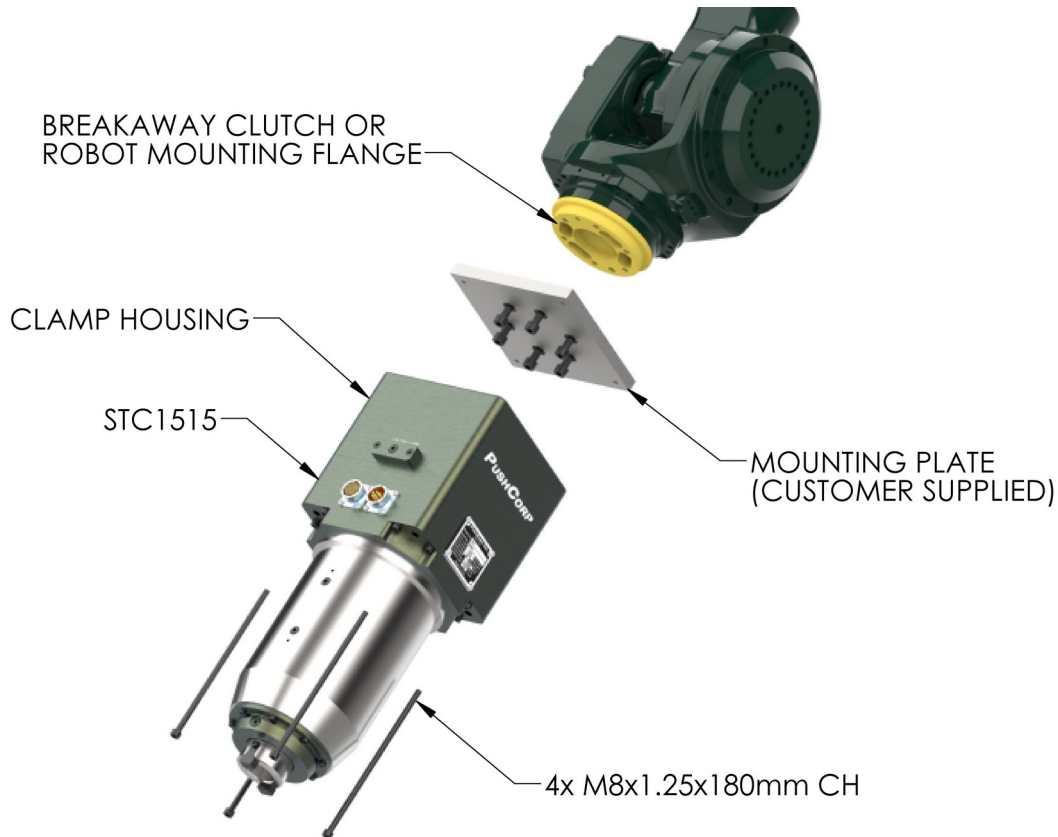

Figure 3: STC1515 Direct Mounting
To mount the STC1515, first attach the Mounting Plate to the Robot Mounting Flange or to the Breakaway Clutch, per the manufacturer's specifications. Once the Mounting Plate is secured, place the STC1515 against the Mounting Plate and install (4) four, M8x1.25X180mm, Socket Head Cap Screws. (See Figure 3) Tighten the fasteners to the torque specified in Section 4.0.